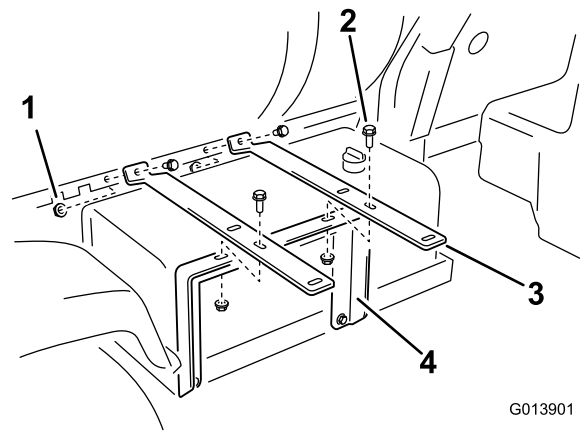

Figure 9
2. Install the ends of the 2 hose reel straps to holes in the tank saddle as shown in Figure 9, using 2 flange-head bolts (3/8 x 1 inch) and 2 flange nuts (3/8 inch).